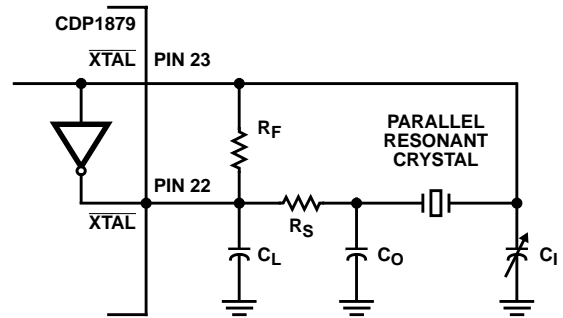

FIGURE 6. SUGGESTED OSCILLATOR CIRCUIT APPLIED TO REAL-TIME CLOCK (SEE TABLE 3)
1. An external crystal that is used with the on-board oscillator. The oscillator is biased by a large feedback resistor and oscillates at the crystal frequency (see Figure 6, Table 3).
TABLE 3. TYPICAL OSCILLATOR CIRCUIT PARAMETERS FOR SUGGESTED OSCILLATOR CIRCUIT, SEE FIGURE 6